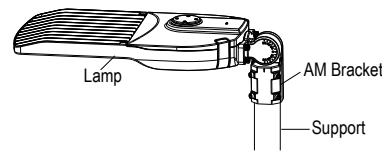

Figure 21
Step 2: Position the bracket into the pole and tighten the four bolts (Figure 21).